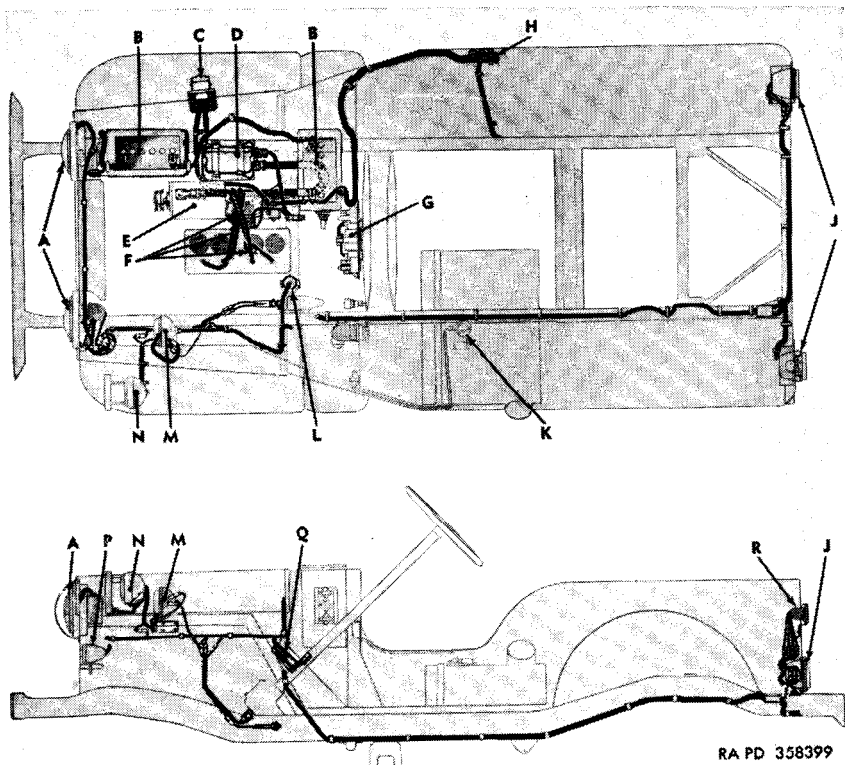

Figure 6. Electrical system.
l. Electrical System (fig. 6). Two 12-volt, lead and acid type batteries (fig. 12), connected in series, supplies 24-volt current for vehicle operation. The head lights, blackout driving light, blackout marker lights, and the stop and tail lights are waterproofed. The head lights and the blackout driving light is of the sealed beam type. This vehicle is equipped with a four-terminal trailer connection (fig. 17 and 18), located at the left rear of the vehicle. An auxiliary power receptacle (fig. 12) is located on the right fender and is used for charging the batteries from an external source to operate electrical components. The radio receptacle (fig. 14), located in the driver's compartment next to the passenger seat, provides power connection